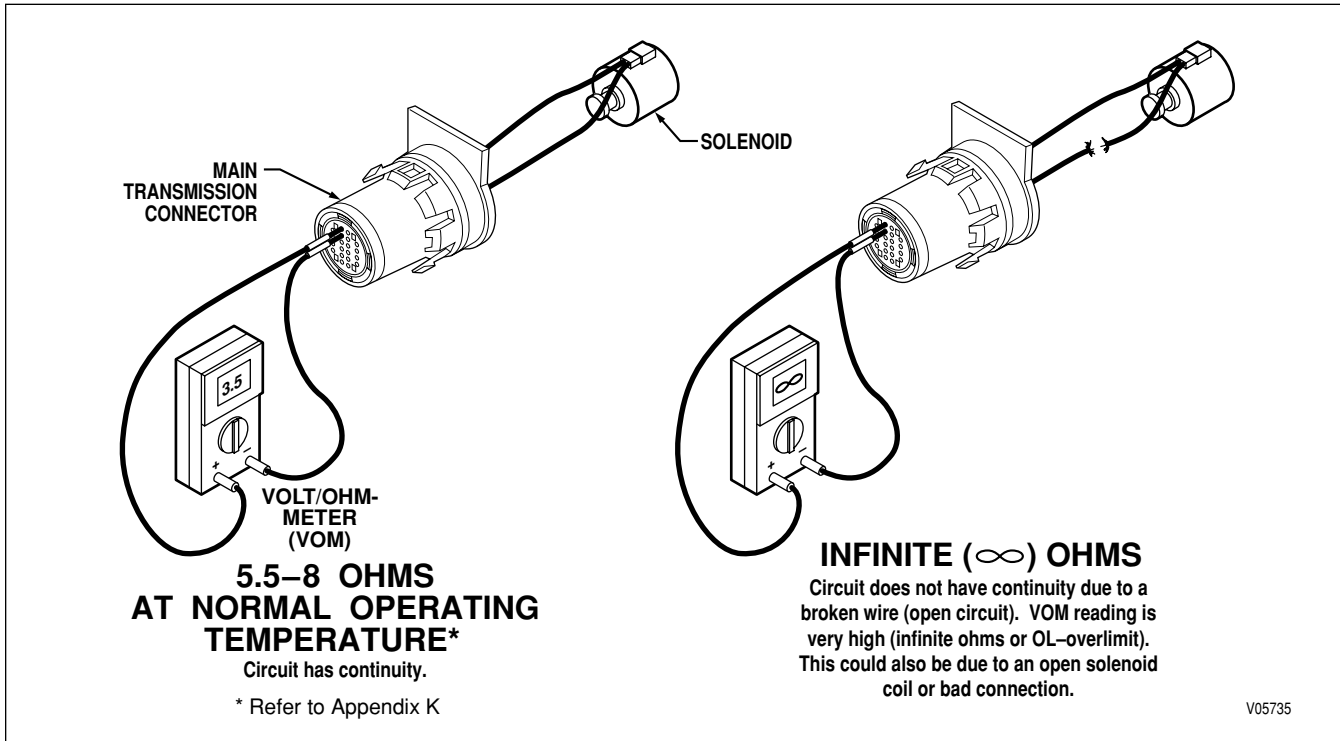

Figure 4–3. Checking Continuity (Internal Harness)
- b. If the resistance check is good, check the harness for shorts between wires and to ground by performing the following (refer to Figure 4–4):
- (1) At the transmission connector, touch one probe of the VOM to one wire of the circuit being tested and touch the other probe to each terminal in the connector and to chassis ground and the transmission main housing. Do this for both wires in the circuit being tested.
- (2) If the VOM shows zero to low resistance, or the continuity beeper sounds, there is a short between the two points being probed, wire-to-wire or wire-to-ground. An indication of a short may be caused by a splice to the wire being checked. Check the wiring diagram in Appendix J for splice locations. If the short is not a splice, then isolate and repair the short.